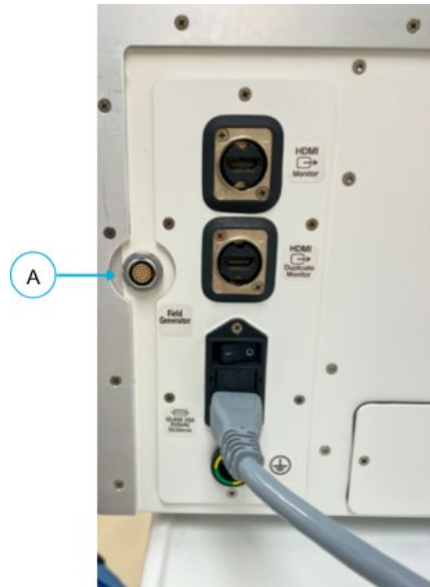

Figure 10-25: Field Generator to Generator Connection
6. Plug the **Field Generator cable** into the port (A) labeled 'Field Generator' on the back of the Generator (**Figure 10-25**).